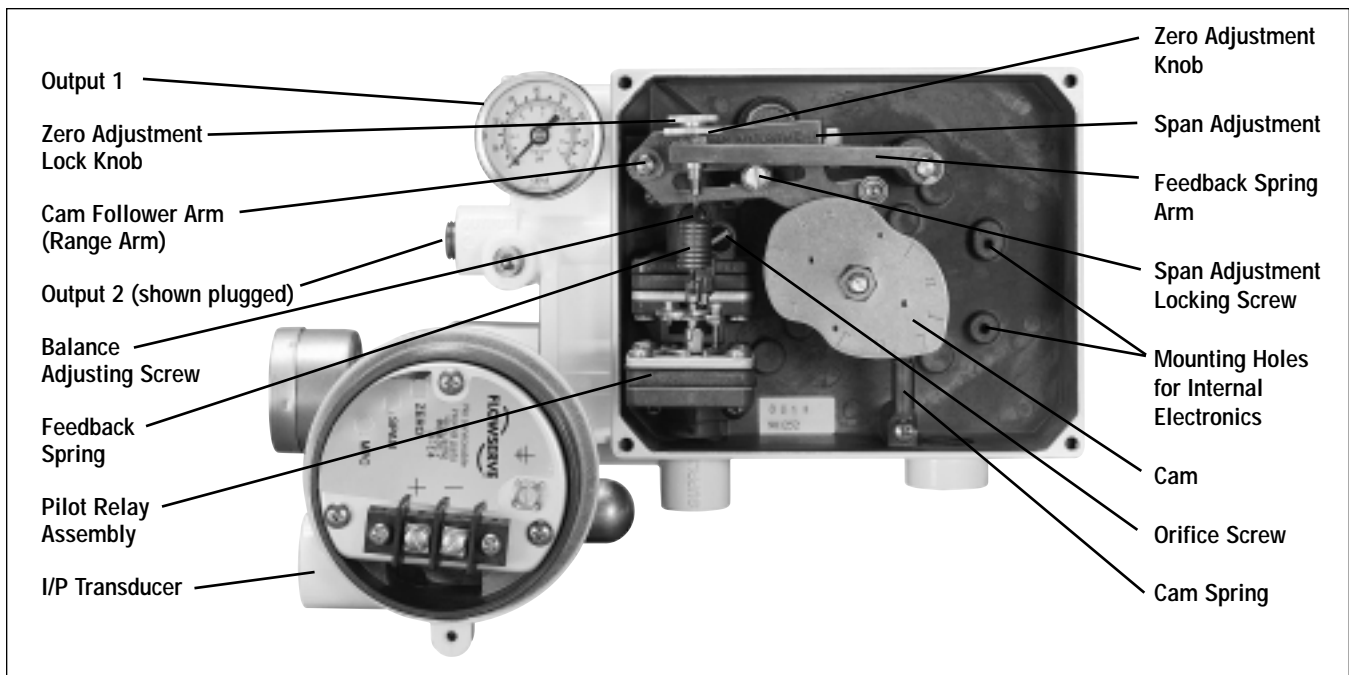

Figure 6: Positioner Adjustments
For calibration, refer to Figure 6 and proceed as follows:
7. Connect Cam return spring. See Figure 6.
4. Remove rubber cap over balance adjustment screw. (See Figure 6.)